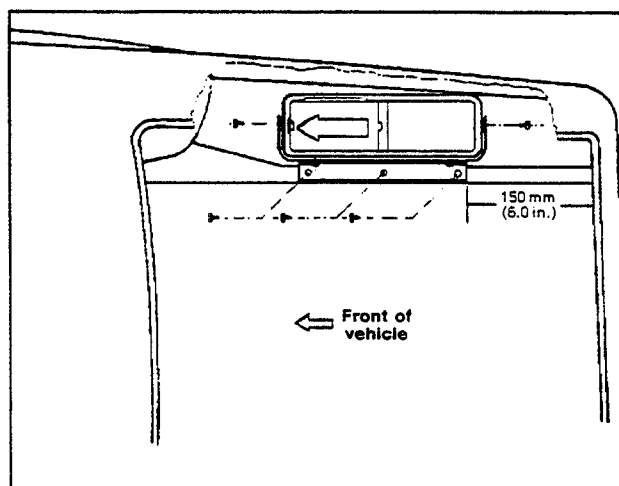

Figure 2
4. Place the CD changer shell (1) and mounting bracket (2) assembly on the edge of the wheel well rail so that the edge of the bracket is 150 mm (6.0 in.) from the rear panel of the trunk (Figure 2). Mark the location of three mounting holes, center punch the markings and drill 5 mm holes.